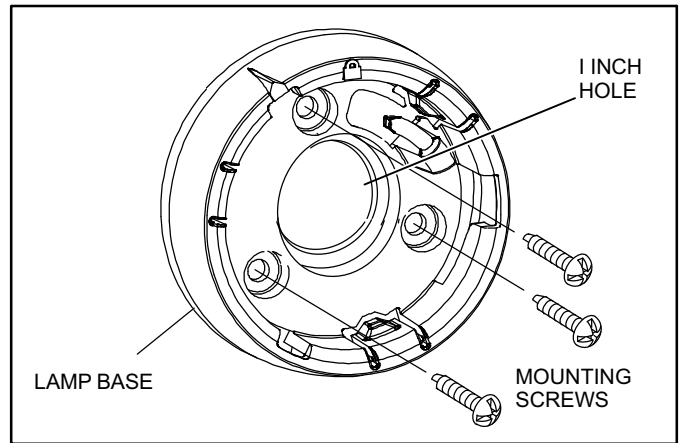

Figure 3. Remove and Install Lamp Base
4. Remove the lamp base as shown in figure 3.
5. Install new lamp base assembly as shown in figure 3.